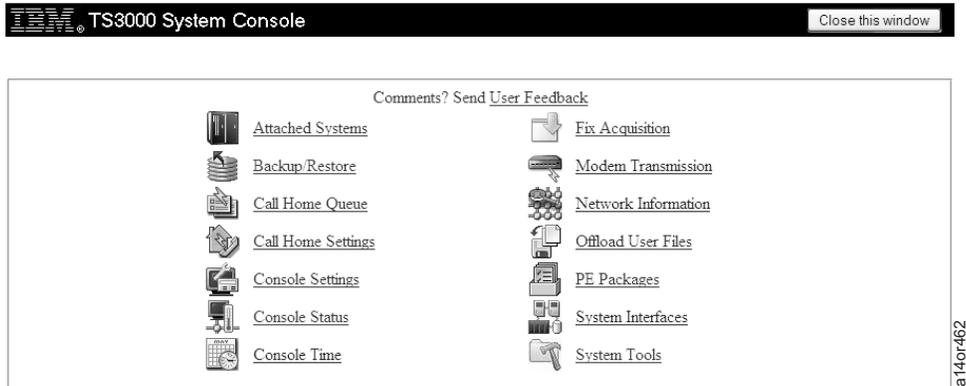

Figure 60. Console Configuration Utility Screen
3. Type **service** in the Username field, type **service** in the Password field, then click **OK** to start the Console Configuration application. You see the Console Configuration Utility screen shown in Figure 60 on page 49.
- Type **service** in the Username field; type **service** in the Password field, then click **OK** to start the Console Configuration application. You will see the Console Configuration Utility screen as shown in Figure 60 on page 49
3. Type **service** in the Username field; type **service** in the Password field, then click **OK** to start the Console Configuration application. You will see the Console Configuration Utility screen as shown in Figure 60 on page 49.